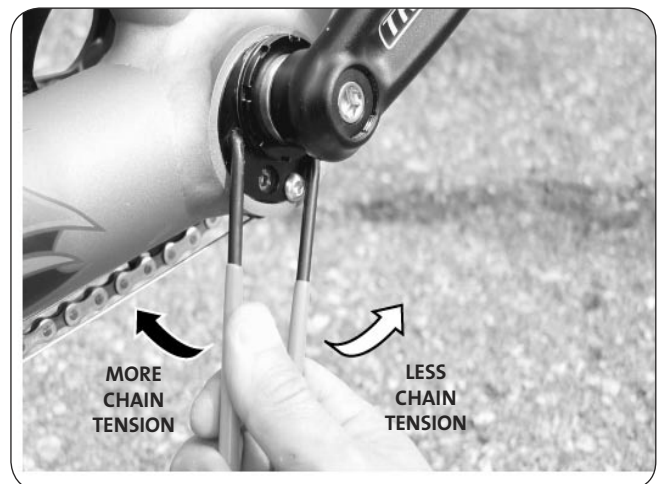

FIGURE 3
3. When the wedge is loose and the eccentric assembly is free to rotate, insert the ends of a pin spanner tool (or a 5 mm Allen key) into the eccentric holes and rotate it until the correct vertical chain deflection is reached. See Fig 3.